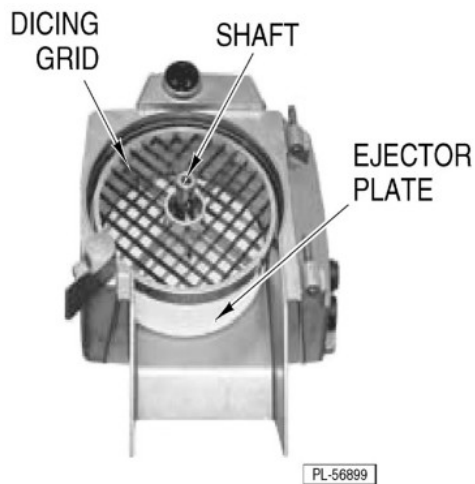

Fig. 4
4. Center the ejector plate on the shaft and, with the slots in the ejector plate aligned with the pins in the coupling, push the ejector plate down to the bottom of the shaft and onto its coupling (Fig. 4). Turn counterclockwise to lock.
5. If dicing or chopping insert a dicing grid, and turn it until the holding pin fits into the notch (Fig. 4).